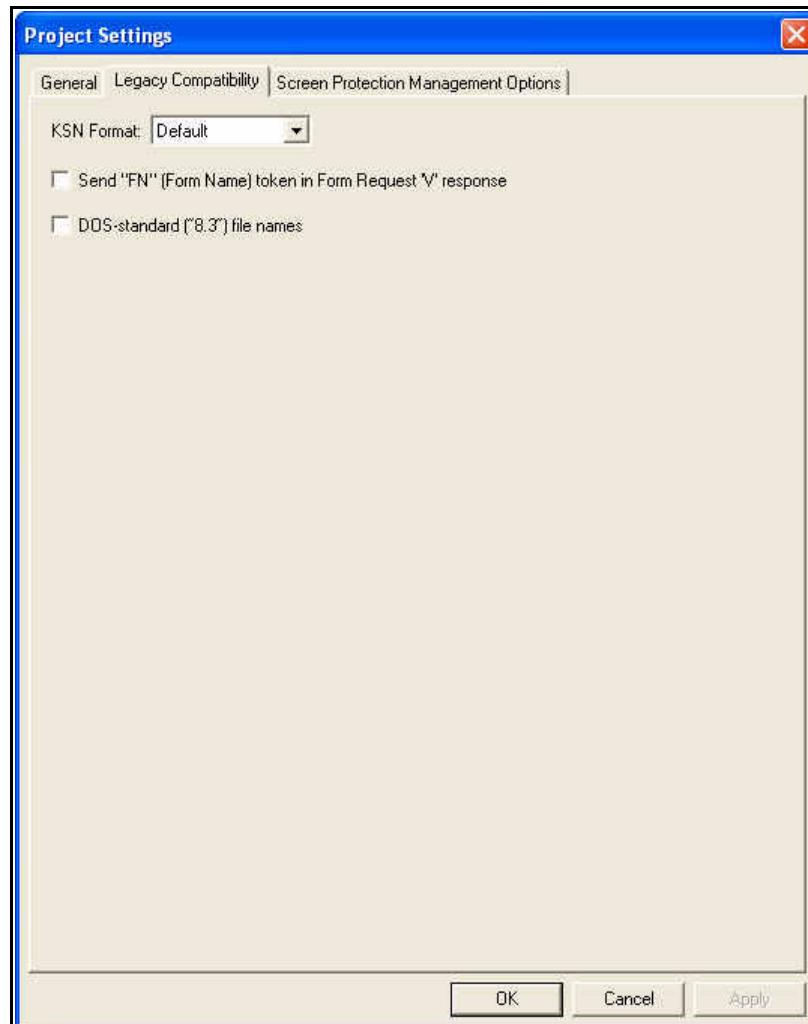

Figure 2-46 Legacy Compatibility Tab
1. Select the Legacy Compatibility tab, shown below in *Figure 2-46*, to set KSN format, Form Request 'V' responses, and DOS-standard file names.